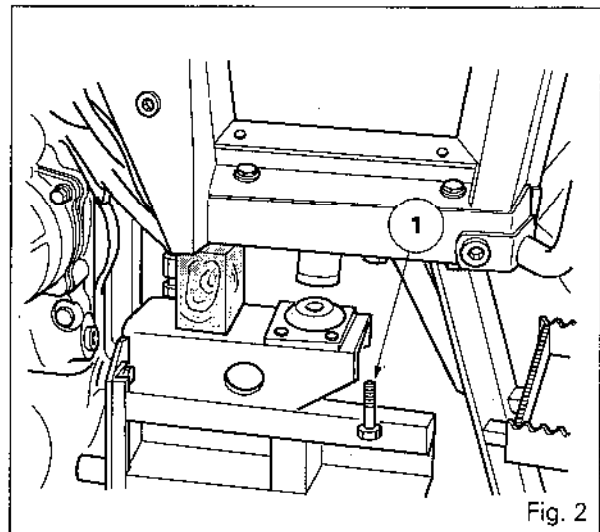

Fig. 2
9. Remove the tool box and two screws (1) from the silent block on the right and left cab supports. Slightly lift the cab and wedge (4 cylinder engine) (Fig. 2).
17. Put the cab on its supports. Fit screws (1) on the silent block (Fig. 2) and tighten them to a torque of 200 - 270 Nm, Loctite 270.